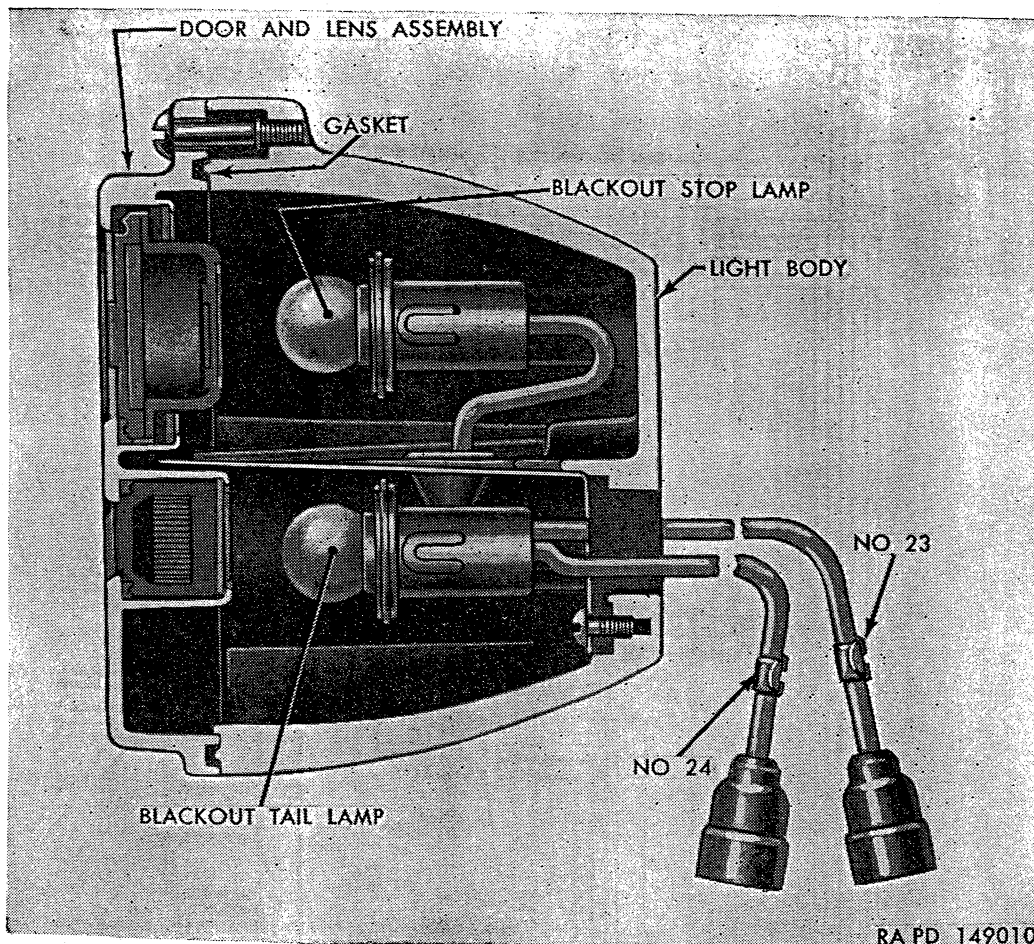

Figure 166. Sectional view of blackout stop and taillight.
*a. Door and Lamp Replacement (fig. 166).* Door and lamp replacement procedure is same as described for front marker lights (par. 163a).
- (1) *Removal.* Disengage light cables from clip on rear of light mounting bracket. Disconnect light cables from harness cables at bayonet-type connectors. Remove two cap screws and lockwashers attaching light assembly to bracket. Note that clips are secured under cap screw heads.
- (2) *Installation.* Insert cables through hole in brackets, position light assembly against bracket, and attach with two  $\frac{3}{8}$ -16 x  $\frac{5}{8}$  cap screws and  $\frac{3}{8}$ -inch external-teeth lockwashers. Make sure clips are installed under cap screw heads. Connect light cables to harness cables, making sure cable numbers are matched. There are three light cables on left light and two on right light.